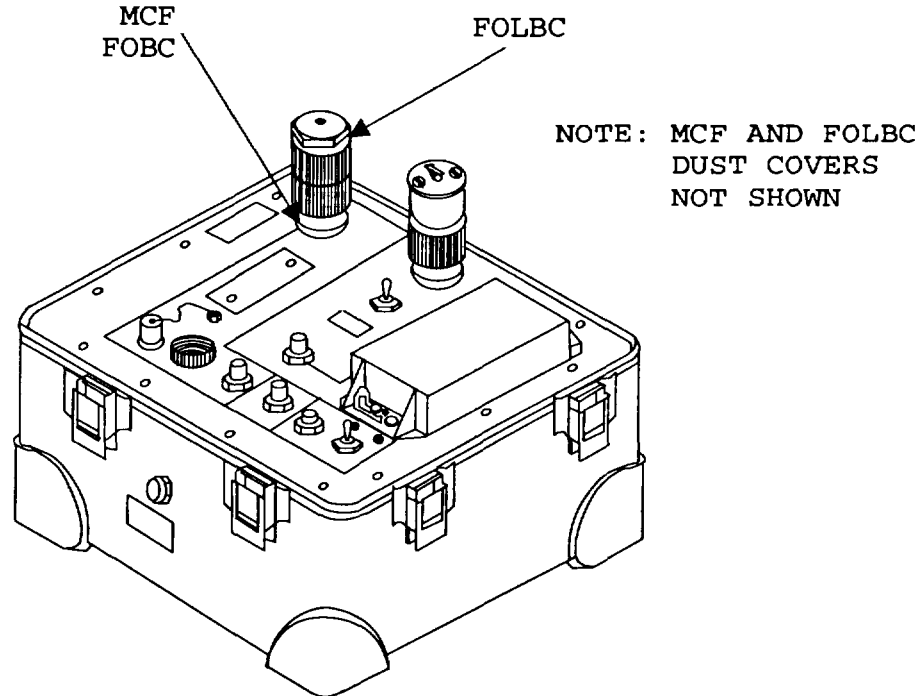

FIGURE 4-2. MCF TEST SETUP.
- (1) Disconnect dust cover from MCF FOBC.
- (2) Remove FOLBC from case top and remove dust cover.
- (3) Connect FOLBC to MCF FOBC and tighten securely. The setup for the MCF test is shown in Fig. 4-2.